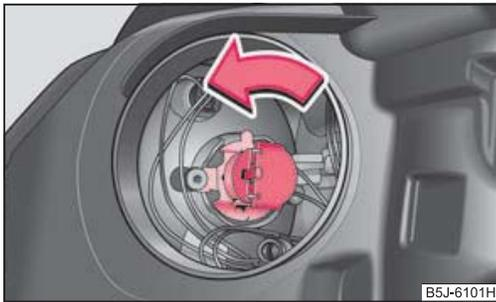

Fig. 172 Removing the light bulb for the main beam light
- Turn the connector with the light bulb up to the stop towards the left ⇒ fig. 172 and remove.